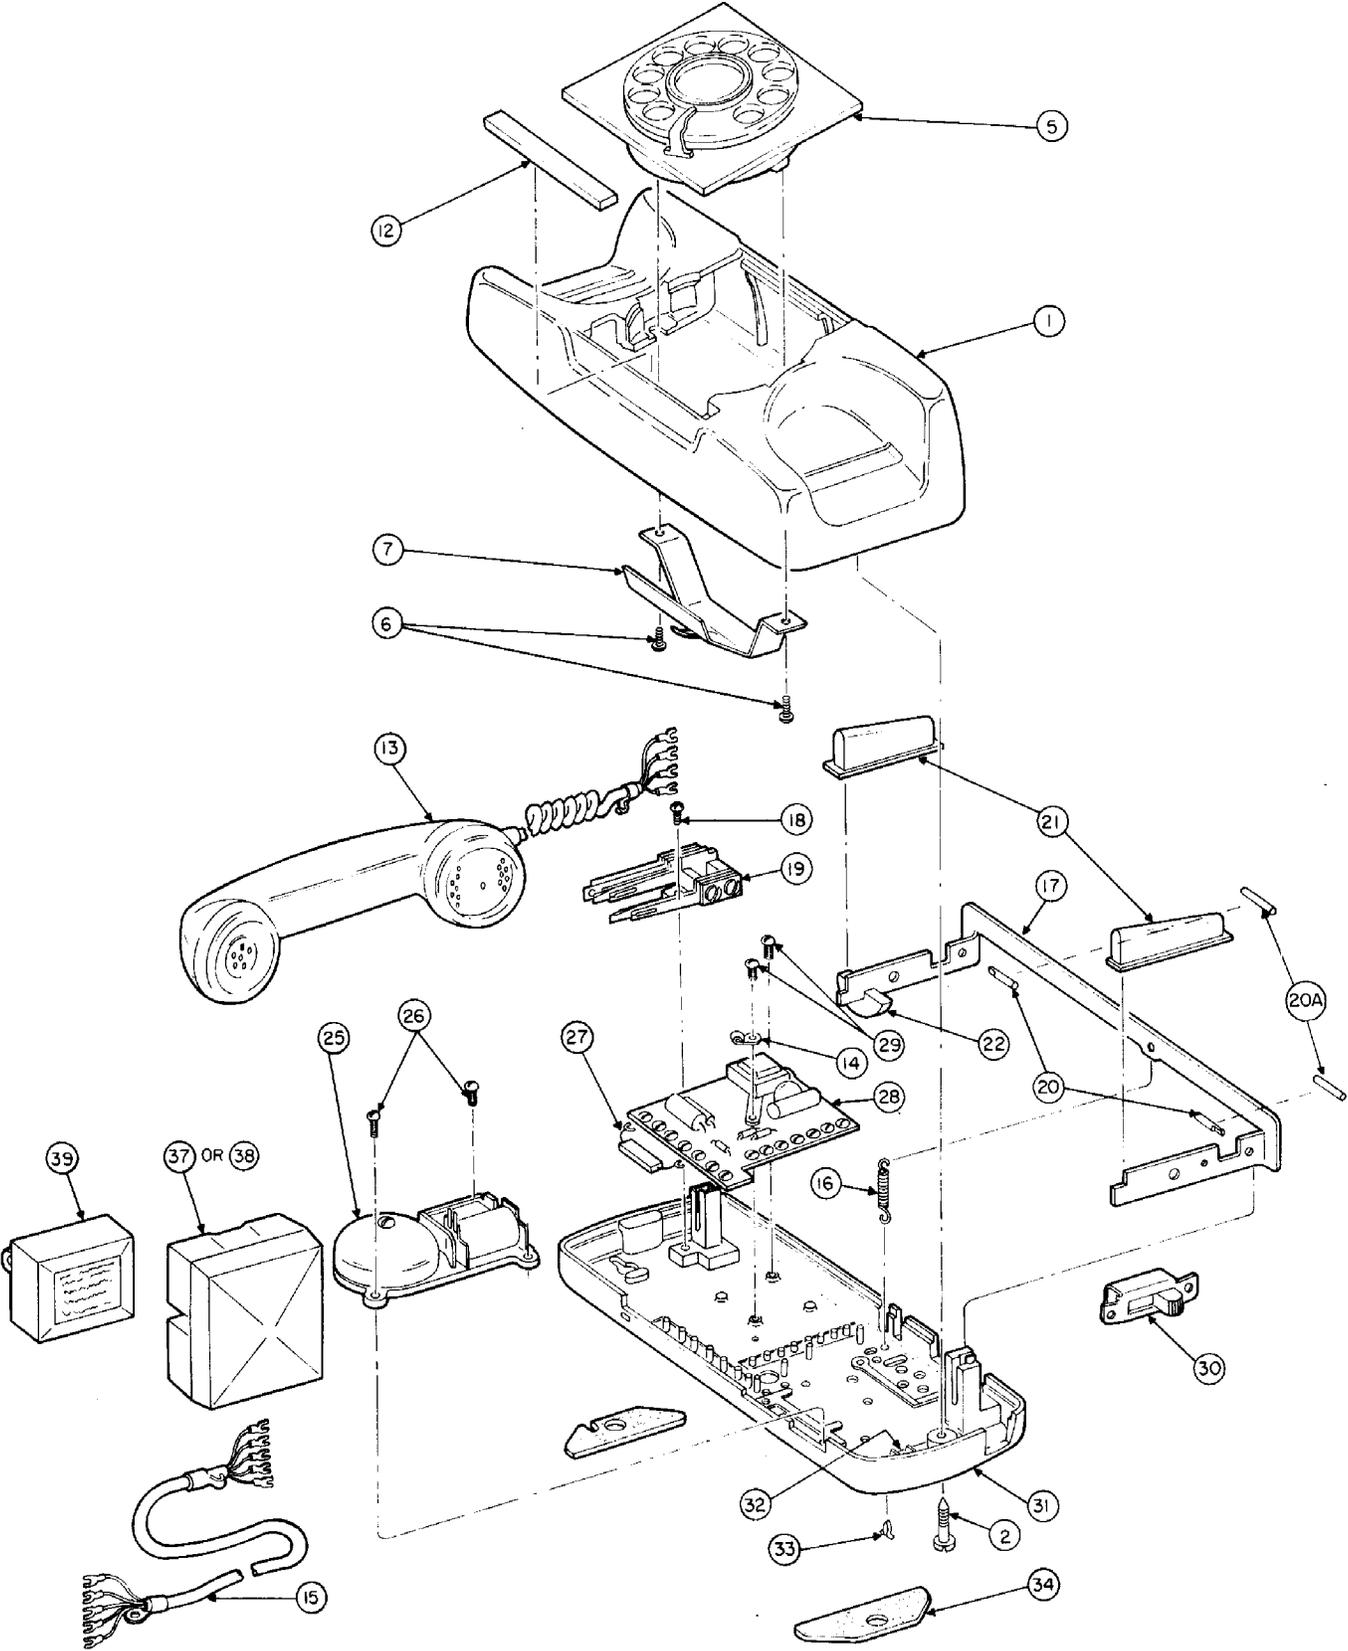

Figure 3. Exploded View of the Type 182A Desk Telephone.
- NOTES: 1. The item numbers in Table 1 refer to the item numbers shown in Figures 3, 4, 5, and 6.
NOTES: 1. The item numbers in Table 1 refer to the item numbers shown in Figures 3, 4, 5, and 6.
- NOTES: 1. The item numbers in Table 4 refer to the item numbers shown in Figures 3 and 4.
3.06 To remove the rotary dial (item 5), refer to Figures 3 and 7 and Table 2 and 3 and proceed as follows:
- (a) Disconnect the dial leads from the transmission network (item 28) terminals and baseplate terminals.
- (b) Remove the two dial mounting screws (item 6) and the rotary dial guard and mounting bracket (item 7).
3.11 To remove the handset (item 13), refer to Figures 3 and 4 and proceed as follows:
- (a) Remove the handset cord from under the cord clamp (item 14).
3.12 To remove the line cord (item 15), refer to Figure 3 and proceed as follows:
3.13 To remove the hookswitch assembly (items 16 through 19), refer to Figures 3 and 4 and proceed as follows:
- (a) Unhook the hookswitch coil spring (item 16) from the hookswitch lever (item 17).
- (d) Remove the screw (item 18) and lift the hookswitch spring and bracket assembly (item 19) from the mounting post.
3.14 To further disassemble the hookswitch assembly, refer to Figures 3 and 4 and proceed as follows:
- (a) Slip the ends of the bearing pins (items 20 and 20a) out of the holes in the hookswitch lever (item 17).
- (b) For the Type 182A telephone, lift the plungers (item 21) and the buffer (item 22) off the hookswitch lever.
- (c) For the Type 192A telephone, lift the plunger (item 23) and bearing pin (item 14) off of the telephone housing.
4.06 To install the hookswitch assembly, refer to Figures 3, 4, 7, 8, and 9 and Tables 5 and 6 and proceed as follows:
- (a) Position the buffer (item 22) under the left side or upper arm of the hookswitch lever (item 17).
- (b) On the Type 182A telephone only, place the plungers (item 21) on the upper side of the arms of the hookswitch lever.
- (c) Position the hookswitch spring and bracket assembly (item 19) over the retaining post and secure it with the screw.
- (e) Insert the pins (items 20 or 20a) in the pivot hole of the hookswitch lever.
- (g) Hook the coil spring (item 16) between the spring clip and the hookswitch lever.